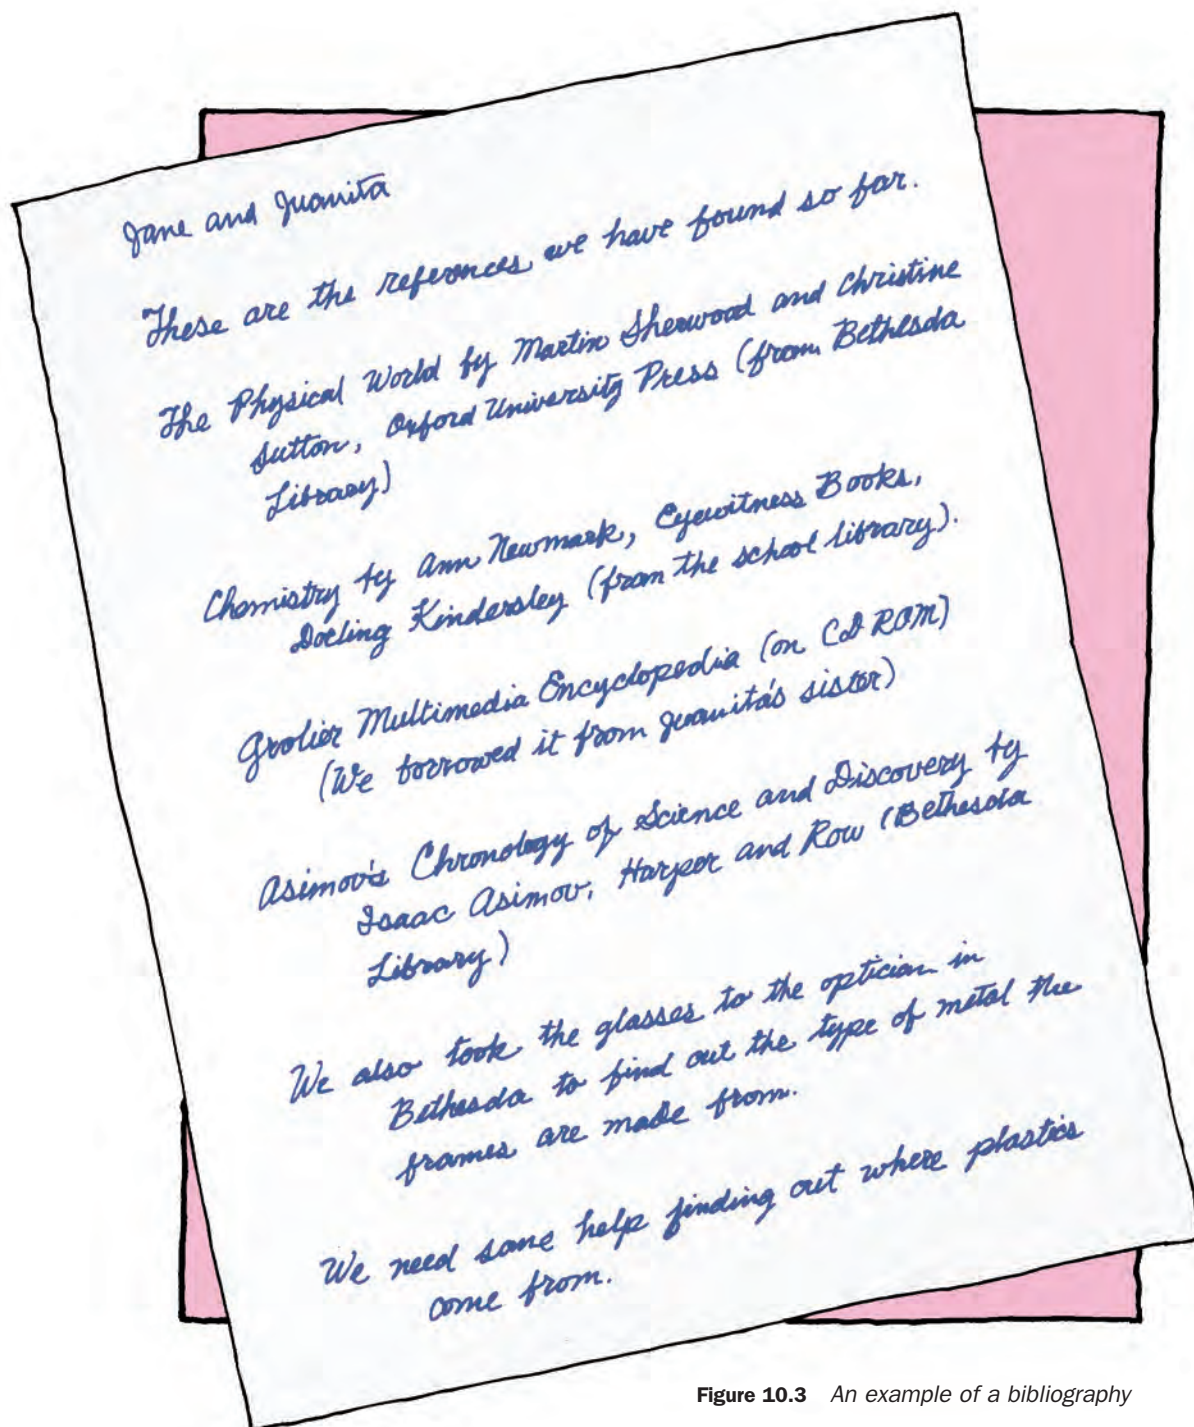

Figure 10.3 An example of a bibliography
4. On another sheet of paper, write a bibliography. The bibliography can include books, newspapers, magazines, and TV programs. You should have at least one Internet and one CD-ROM or DVD reference (see Figure 10.3).